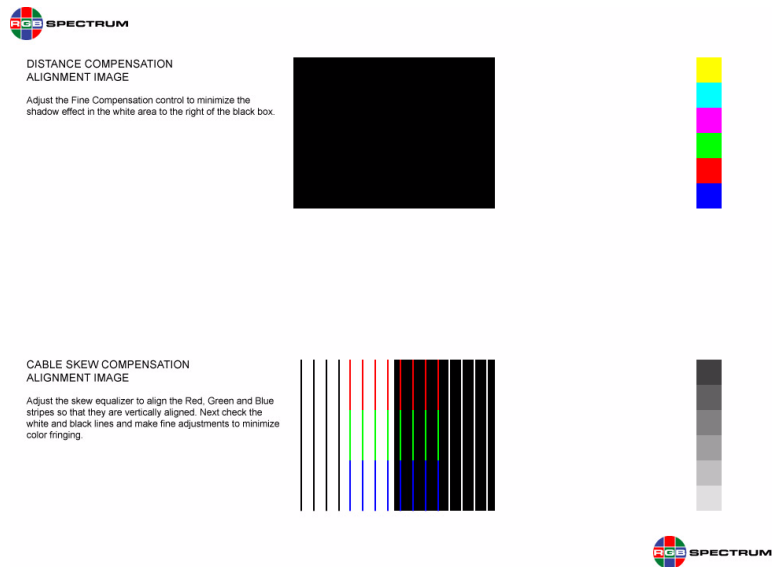

Figure 4-4. Test Alignment Image
Picture quality is affected by the type and length of the UTP cable that is connected between the transmitter and receiver. The *XtendView* RXSL receiver provides controls that can be used to optimize the picture quality for lengths from 0 - 500 ft. This is accomplished in conjunction with the test image (Figure 4-4) that was supplied on the CD ROM with your *XtendView* system. Note that the transmitter does not require any calibration.
1. Display the test image (as shown in Figure 4-4) on the PC connected to the *XtendView* transmitter.
A correctly adjusted image should not exhibit streaking (under-compensated) or ringing (overcompensated) artifacts. The transition between the black box and the white background should be crisp and free of black or white smears to the right of the box. See Figure 4-4 for a view of a test image when the distance and skew compensation have been correctly set.